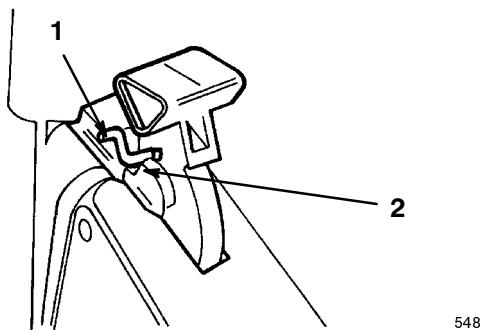

Figure 14
4. Pull the handle rearward until the handle latch locks in the notch in the bag door latch (Fig. 14).
Note: In Figure 14, the brush guard is not shown for the purpose of clarity.